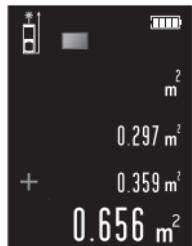

Fig. 3
Step3 – short press button device calculates the sum and shows in the major display area as Fig. 3